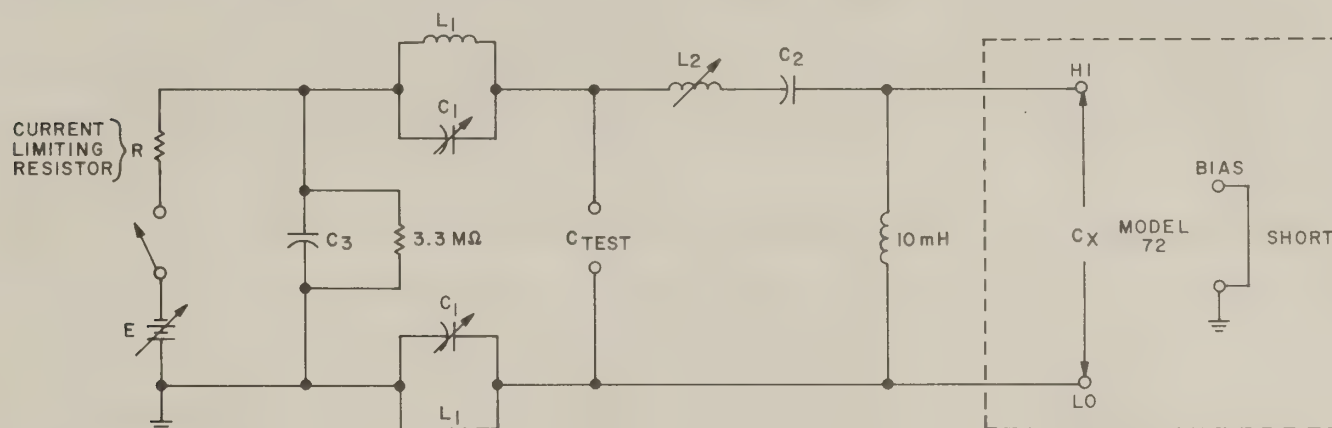

Figure 2. Connections for External Bias
If external bias voltages larger than allowed in Paragraph 3.2.9 are required, the circuit of Figure 2 should be used.
4.1.1 Capacitance (Three-Terminal) (See Figure 2.)